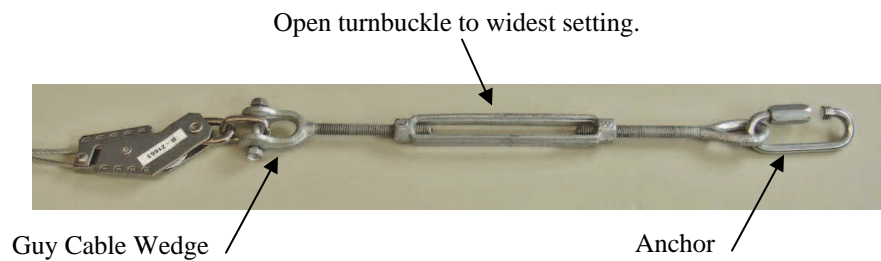

FIGURE 2.4-6. Turnbuckle Fastened to Guy Cable and Anchor
Step 6: Attach guy wires to anchors by first opening the turnbuckle to the widest setting. Attach turnbuckle to wedge end of the guy cable, and then attach the other end of the turnbuckle to an anchor (see Figure 2.4-6).